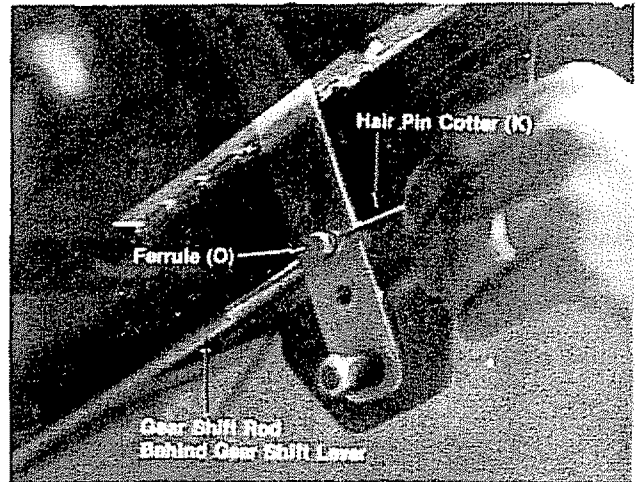

FIGURE 11.
- J. Secure ferrule in gear shift lever (as shown in figure 11) with hair pin cotter (K).